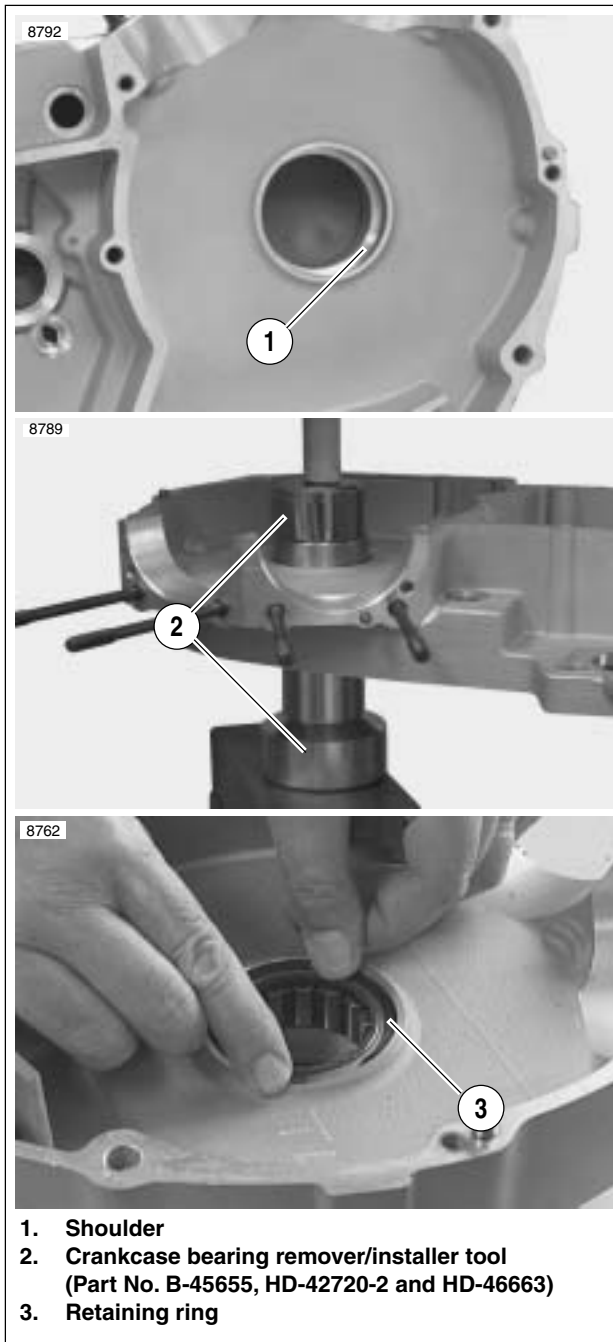

Figure 3-149. Left Main Bearing Installation
1. See Figure 3-149. Using CRANKCASE BEARING REMOVER/INSTALLER (Part No. B-45655, HD-42720-2